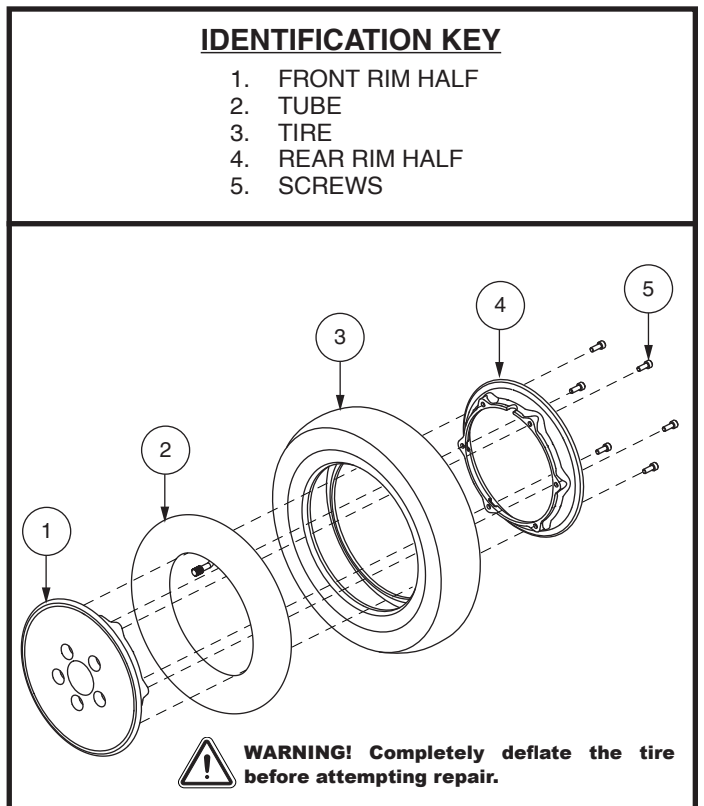

Figure 20. Pneumatic Drive Wheel Disassembly/Assembly
6. Remove the screws and separate the rim halves. **See figure 20.**